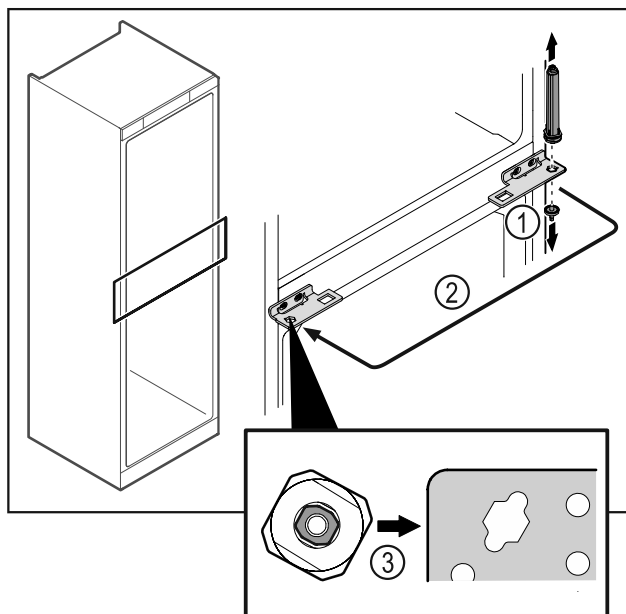

Fig. 38
- Unscrew the hinge pin Fig. 38 (1).
- Move the door closing system Fig. 38 (2).
- When inserting, make sure that the door closing system Fig. 38 (3) is correctly aligned.